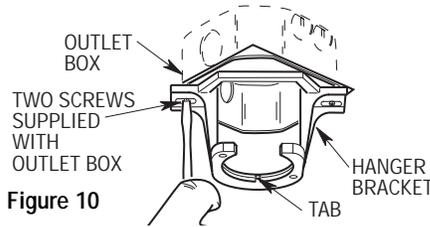
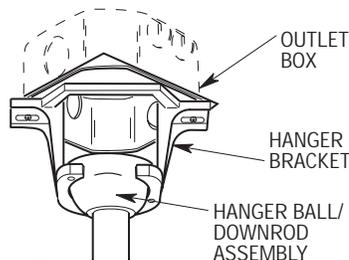

Figure 10
Figure 11
- 1. Securely attach the hanger bracket to the outlet box using the two screws supplied with the outlet box (Figure 10).
- 2. Carefully lift the fan and seat the hanger ball/downrod assembly on the hanger bracket that was just attached to the outlet box (Figure 11). Be sure the groove in the ball is lined up with the tab on the hanger bracket (Figure 10).